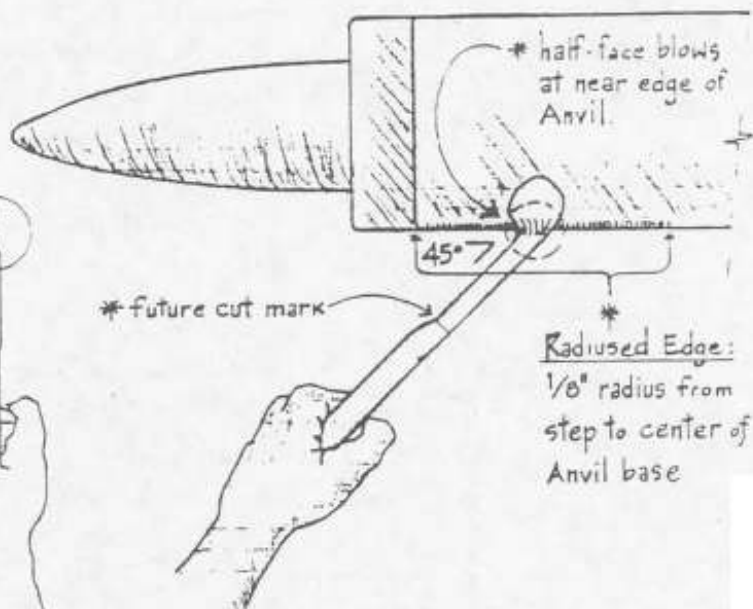

figure H3: Shouldering both sides of knuckle
- Anticipate how much of bar material will be needed to make the 2nd knuckle and make "future" cut mark with a chisel. (See dashed line on figure H3).